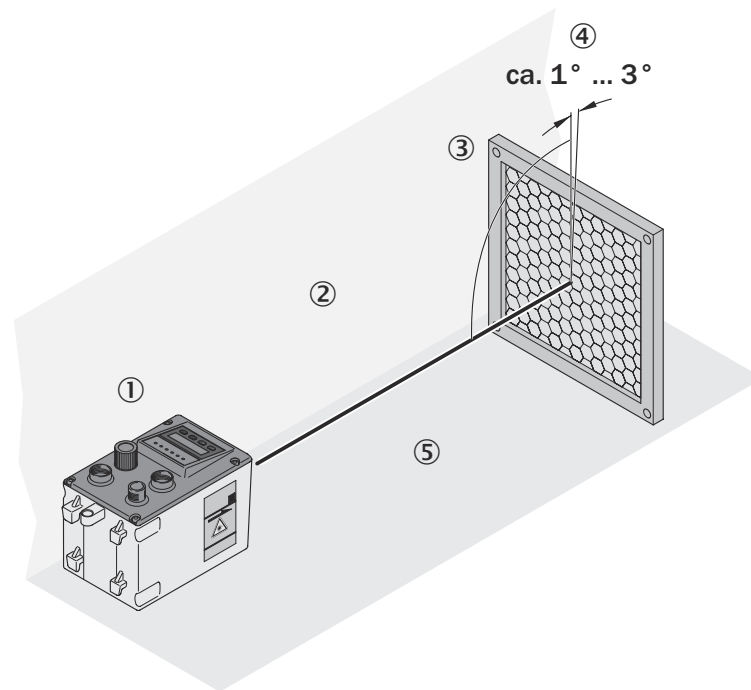

Figure 6: Reflector tilt for shiny surfaces and horizontal driving axis
- ① Distance sensor
- ② Tilt of the vertical axis of the reflector approx. $+1^\circ \dots +3^\circ$
- ③ Reflector
- ④ Tilt of the horizontal axis of the reflector approx. $+1^\circ \dots +3^\circ$
- If the sensor is mounted in the driving axis of an automated storage and retrieval system, tilt the reflector toward the ceiling away from the rail .see figure 6, page 19.